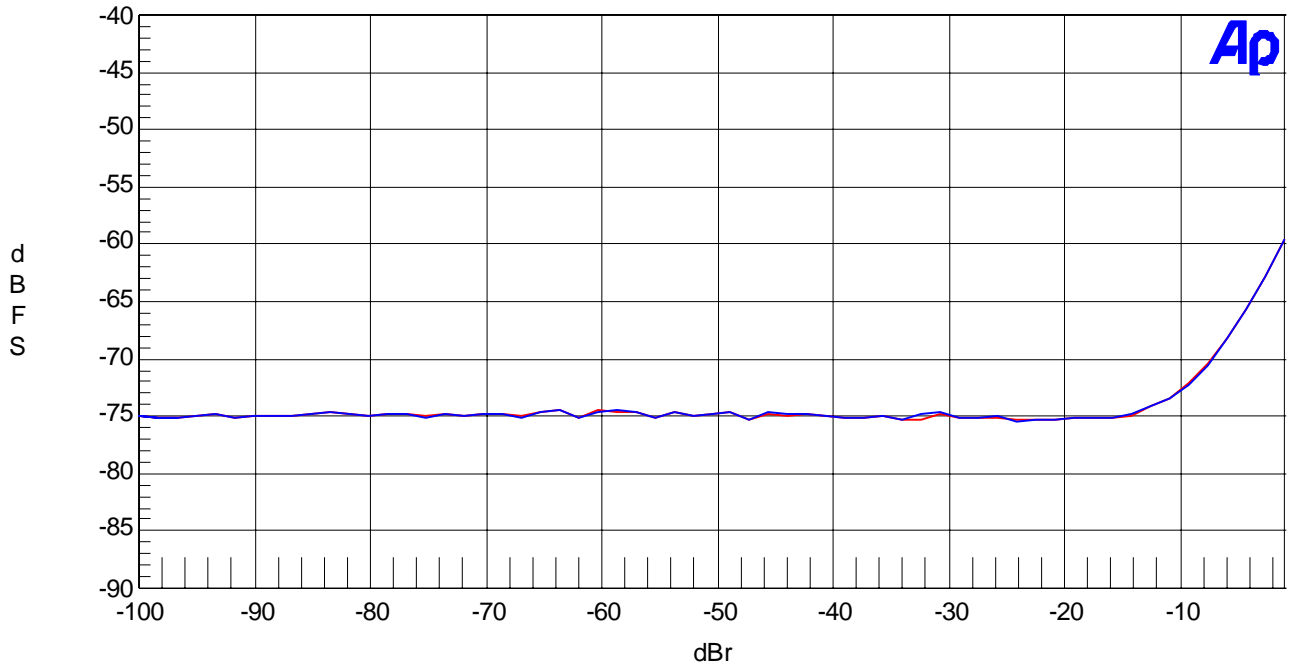

Figure 1. THD+N vs. Input Level (1kHz)
- Figure 1. THD+N vs. Input Level (1kHz)